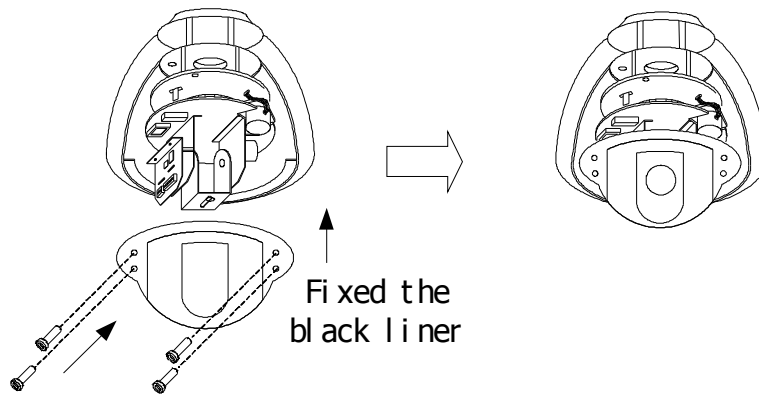

Figure 8
6. Fix the black liner (see Figure 8).